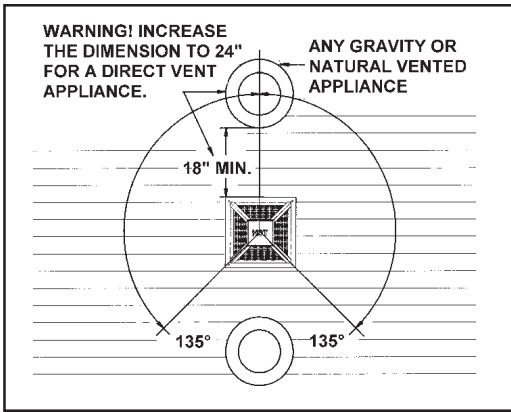

FIGURE 6
- 18" minimum from other gravity or natural appliance outlet vents when directly above or 135° to either side of center line, see Figure 6.